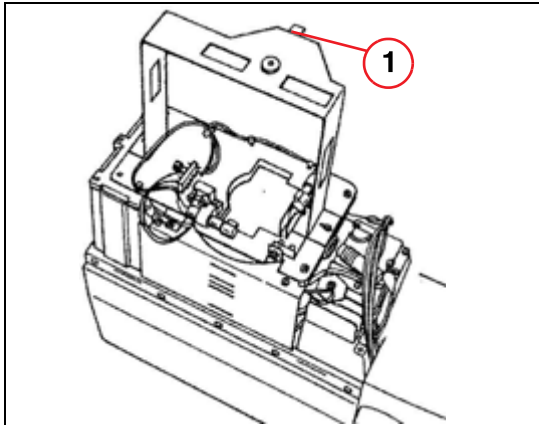

Fig. 3: I.I. attachment
- Attach the adjustment device above the laser light localizer as shown in \(Fig. 3 / p. 10\).
- The pointer (1/Fig. 3 / p. 10) of the adjustment device and the crosshairs of the I.I. attachment are displayed on the monitor.